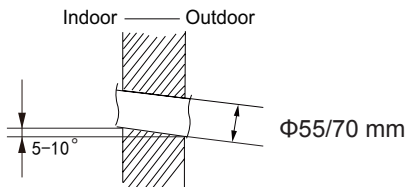

Fig.2
(2) Open a piping hole with the diameter 55/70mm on the selected outlet pipe position. In order to drain smoothly, slant the piping hole on the wall slightly downward to the outdoor side with the gradient of 5-10°. (As show in Fig.2)